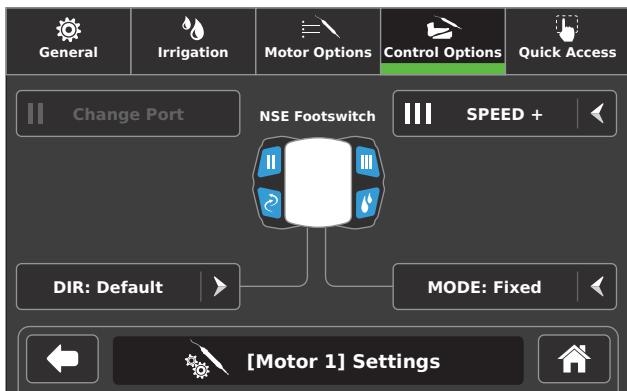
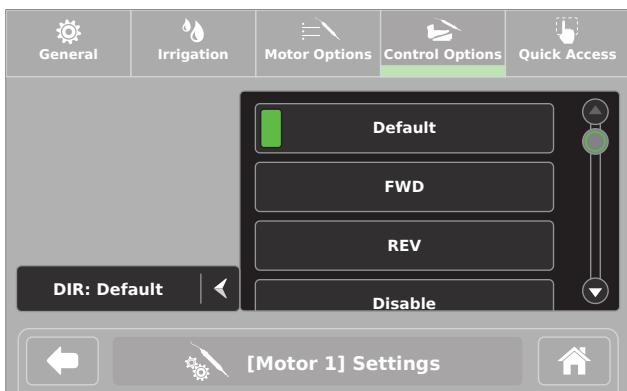

Figure 25 – NSE Footswitch Control Options Screen
Figure 26 – Options List
4. Adjust control options as necessary (Figure 25 and Figure 26).